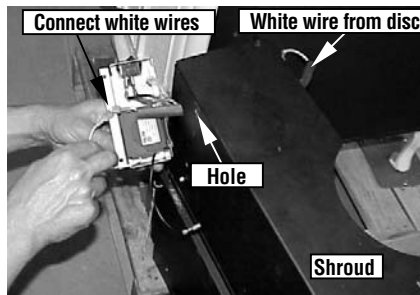

Figure 5
5. Pass the white wire from the fan disc through the hole in the rear shroud and connect it to the white rheostat wire (as shown in Figure 5).